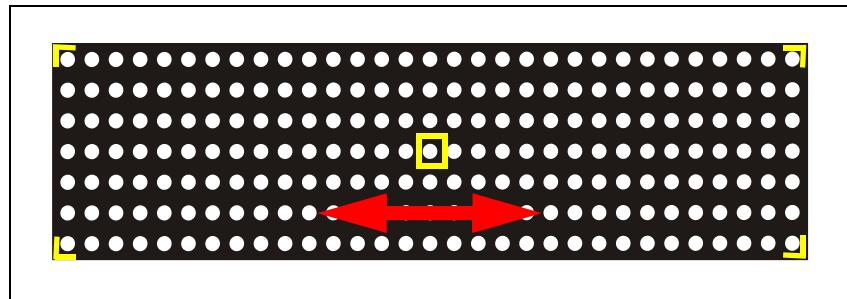

Figure 4-23. Locate X position of calibration plate.
The camera view with a graphical support pattern is shown on the screen See Figure 4-23.
- When prompted, use the trackball and the graphical support pattern to position the crosshairs on the center of the shown calibration pattern, see Figure 4-23.
The camera view with a graphical support pattern is shown on the screen. See Figure 4-23.
– When prompted, use the trackball and the graphical support pattern to position the crosshairs on the center of the shown calibration pattern, see Figure 4-23.